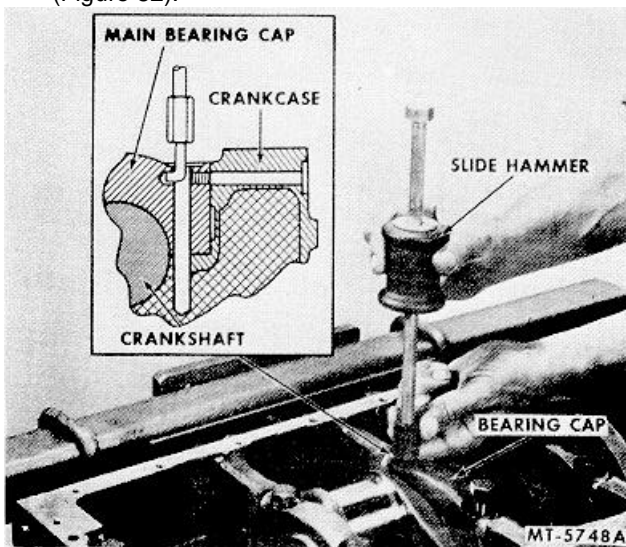

Fig. 82 Removing Main Bearing Cap (Nos. 1, 2, 3 and 4)
72. Using remover tool SE-2093 and slide hammer SE-1746, remove main bearing caps (numbers 1, 2, 3 and 4) by inserting hook end of remover tool in horizontal hole and toward centerline of crankshaft (Figure 82).